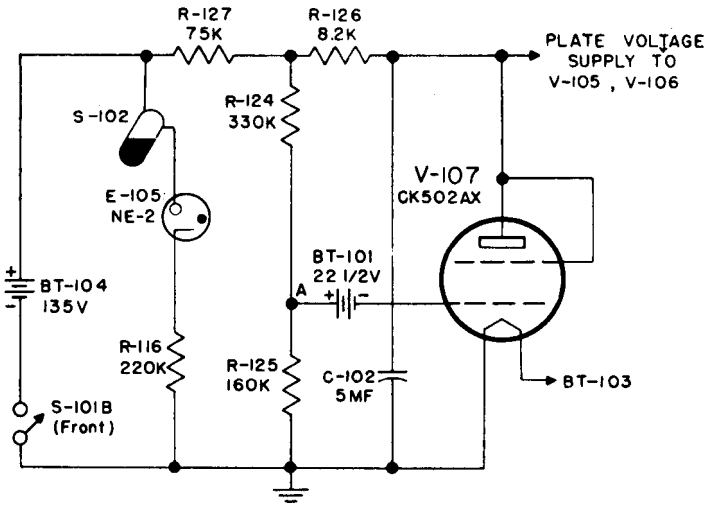

Figure 2-8. Regulated Power Supply Circuit
g. REGULATED PLATE VOLTAGE POWER SUPPLY CIRCUIT. (See Fig. 2-8)--The regulated plate voltage power supply circuit consists of battery BT-104, a shunt voltage regulator circuit, and storage capacitor C-102. Battery power is applied through resistor R-127 to a voltage divider consisting of resistors R-124 and R-125. The control grid of shunt voltage regulator V-107 is held at a potential of 22 1/2 volts below the potential existing at the junction of R-124 and R-125 by means of battery BT-101. The screen grid of V-107 is connected to the plate. The voltage existing on the V-107 plate depends on the potential drop caused by the V-107 plate current through R-127 and R-126. The V-107 plate current is, in turn, governed by the potential on the control grid.
h. METER ILLUMINATION CIRCUIT. (See Fig. 2-8)--